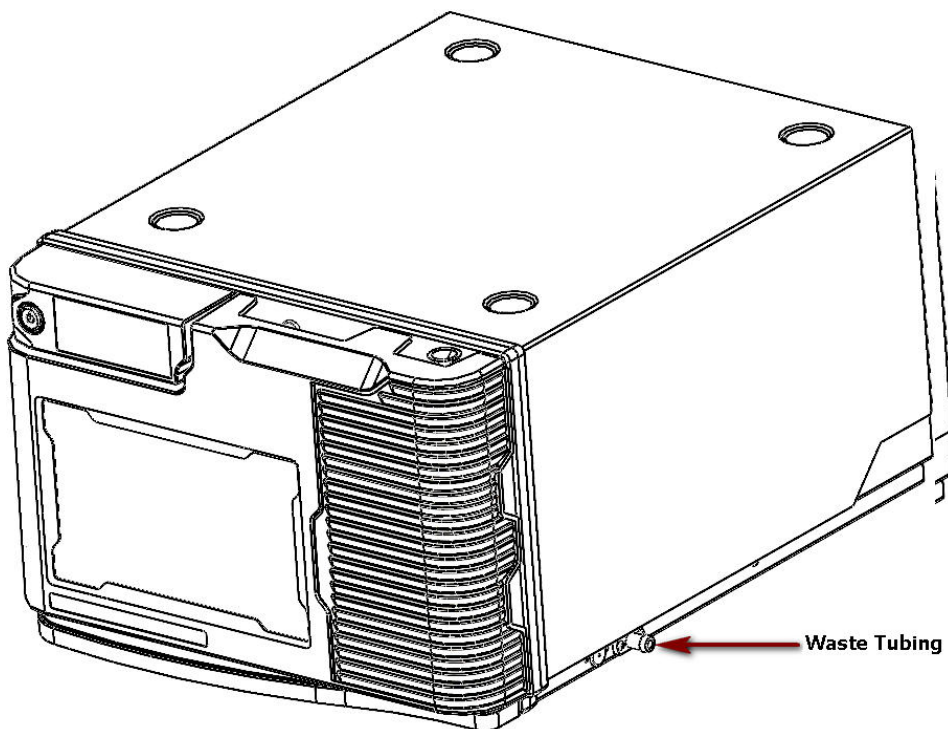

Figure 2-3 L-3320 Autosampler
- Connect the drain tubing (in the L-3320 tool package) to the right-hand drain hose connector (as shown in Figure 2-3).